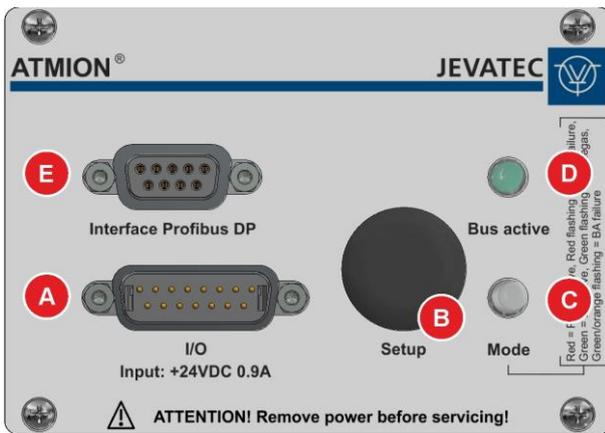
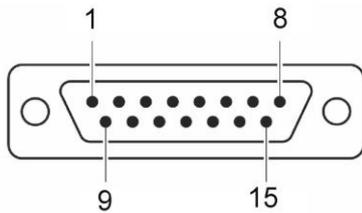
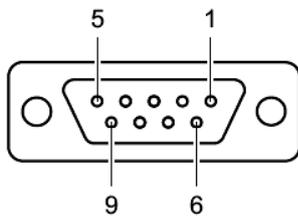

Figure 10 – Closed back of the device
Figure 13 – I/O connector (SUB-D, 15-pin)
Figure 14 – Connection socket Interface Profibus DP (SUB-D, 9-pin)
For further functional descriptions, please refer to the Figure 13, page 24.
Die Figure 10, page 23 shows the front side of the ATMION® Electronic Box, which is connected to the sensor by means of a plug system and union nut.
The Figure 10, Page 23 shows the back of the ATMION® Electronic Box in different states.
The connection I/O for power supply, analogue output, external control, relay output and serial interface RS232 (🔗📖 Figure 10, A, Page 23 and Figure 13, Page 24) combines all connections necessary for operating the vacuum gauge.
Voltages above 60 VDC or 30 VAC are dangerous to touch. They must not be connected to the contacts for external control and degassing (🔗📖 Figure 13, Page 24, PIN 1, 4, 5 and 6) only switch voltages of 24 VDC. This voltage must meet the requirements of a safety extra-low voltage (SELV-E) according to EN 61010.
The Profibus DP interface connection (🔗📖 Figure 10, E, Page 23 and Figure 14, Page 25) enables the device to be integrated into a Profibus-DP bus system. It is optionally available.
- Connect the connection of your JEVAmet® VCU-A0 or AM controller or the corresponding connections of the system via a shielded cable to the I/O connection ( Figure 10, A, Page 23) on the back of the ATMION®.
- The LED Mode ( Figure 10, C, Page 23) on the back of the ATMION® lights up according to the operating status ( Table 5, Page 25).